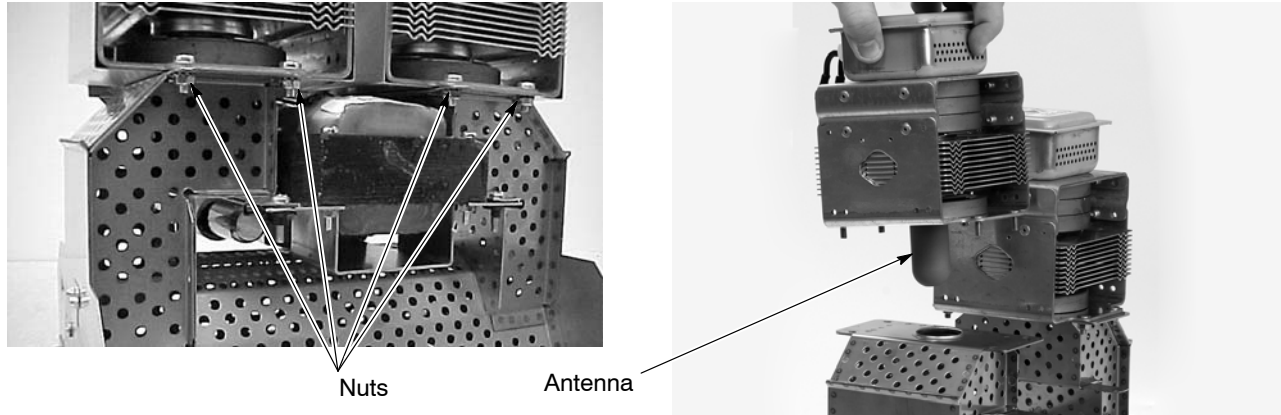

Figure 6-19 Magnetron Removal
- See Figure 6-19. Remove the four nuts that secure each magnetron to the wave guide. Remove the magnetrons. Save the nuts for re-use.